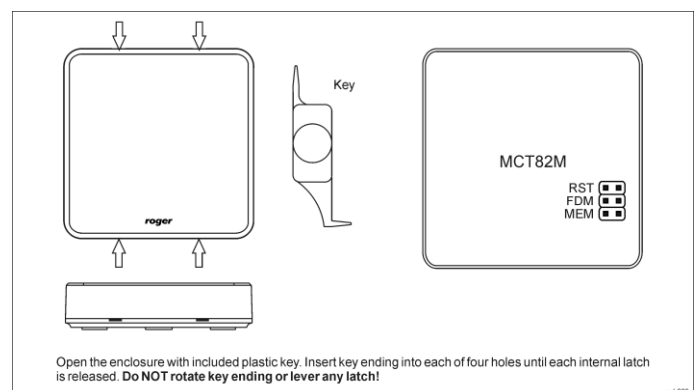

Fig. 3 MCT82 enclosure opening and location of service contacts
2. Place jumper on MEM contacts (fig. 3).
2. Place jumper on FDM contacts (fig. 3).